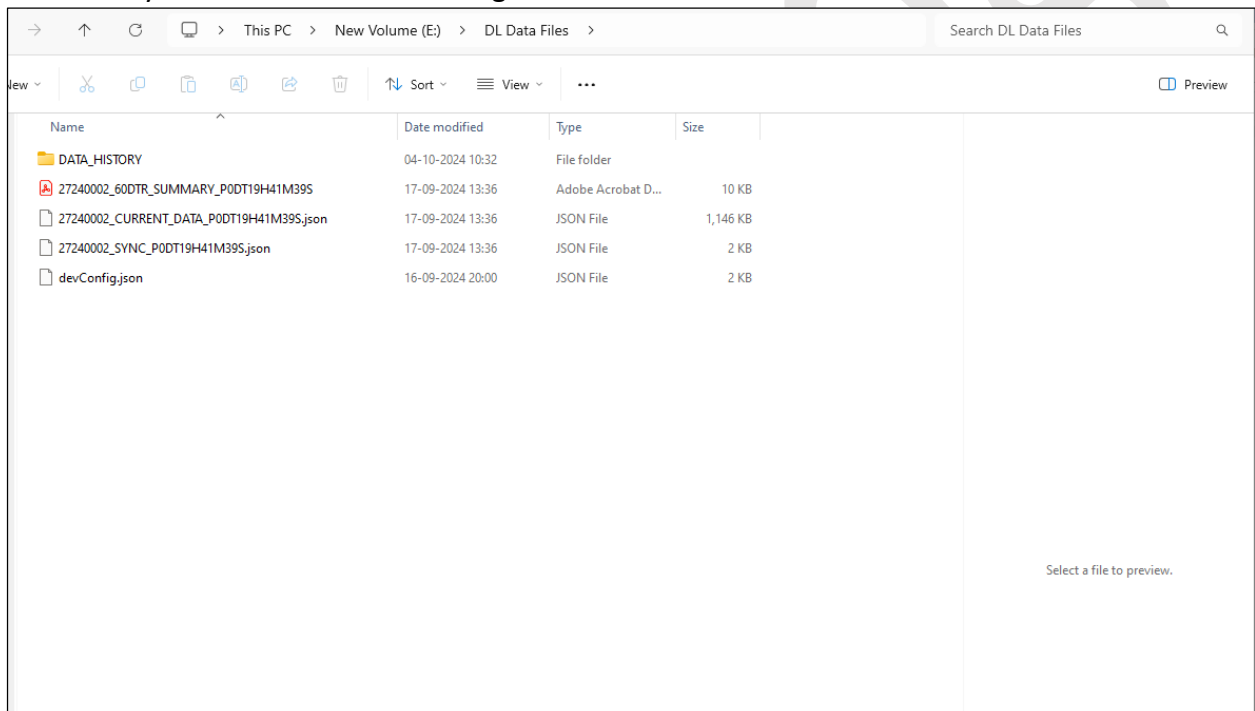

Figure 40 Downloaded Data from Equiplog Data logger
- On downloading, the root directory will consist of the mentioned Json files, PDF report and History data folder as shown in figure 40.